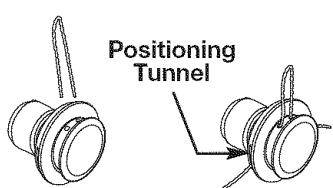

Fig. 12
- Insert both ends of your line through the proper holes in the side of the cutting head (Fig. 12).